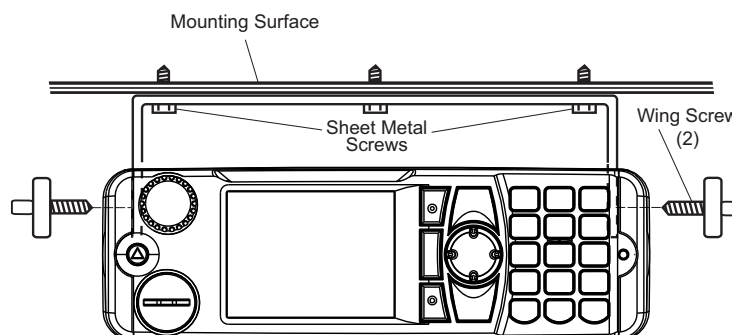

Figure 7 Transmission Hump Mounting (Top) and Below Dash Mounting (Bottom)
1. Select either the transmission hump or an open underneath portion of the dash to mount your terminal (see Figure 7). When mounting the trunnion on the transmission hump, be careful that the transmission housing is not affected.
4. Secure the trunnion mounting bracket to the mounting surface with the three self-tapping screws provided. (See Figure 7.)